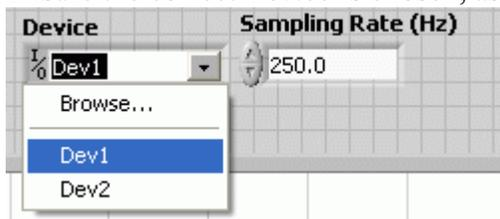

Figure 7: Selecting correct device.
2. Ensure the correct *Device* is chosen, as shown in Figure 7